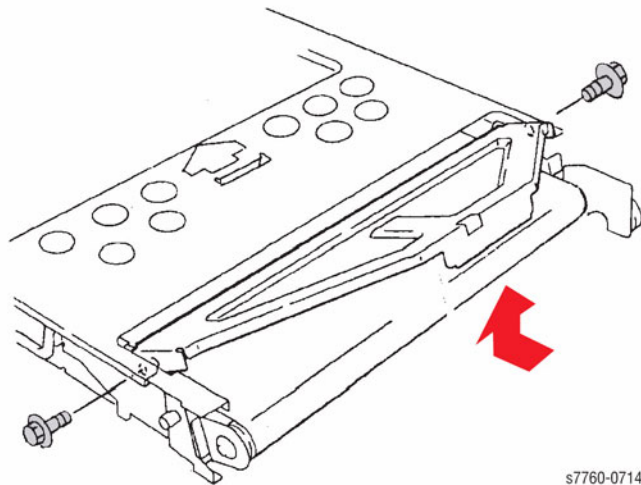

Figure 1 Removing Stand Plate
3. Removing the Stand Plate (Figure 1).